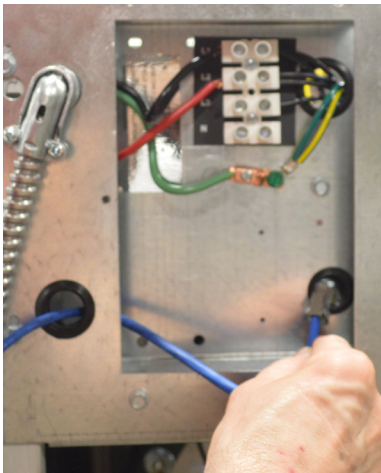

Figure 2
14. Run the cable through the lower left hole with a bushing (Figure 2).